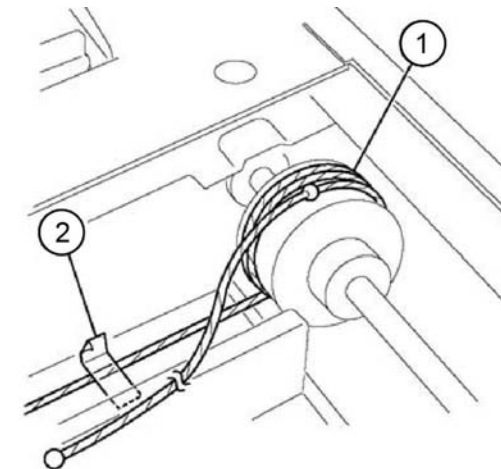

Figure 7 Capstan winding (1)
2. Wind the extension spring loop end of the carriage cable around the capstan, Figure 7:
- a. Wind the cable (1) 2.5 turns.
- b. Use adhesive tape (2) to affix the extension spring loop end of the cable to the frame.